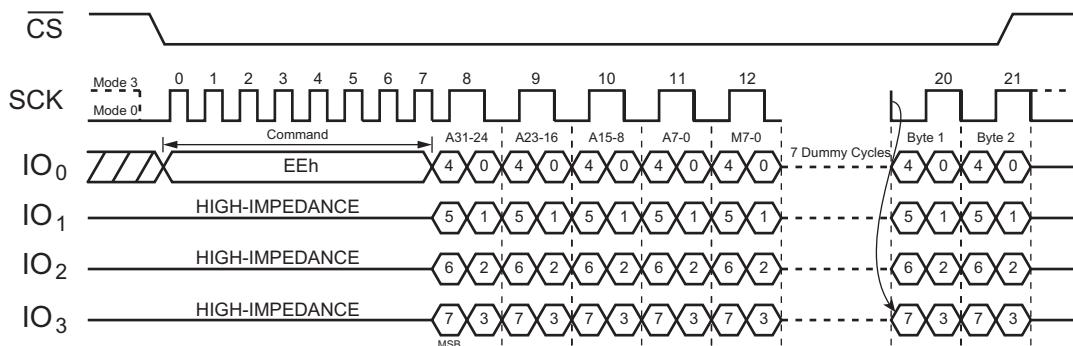
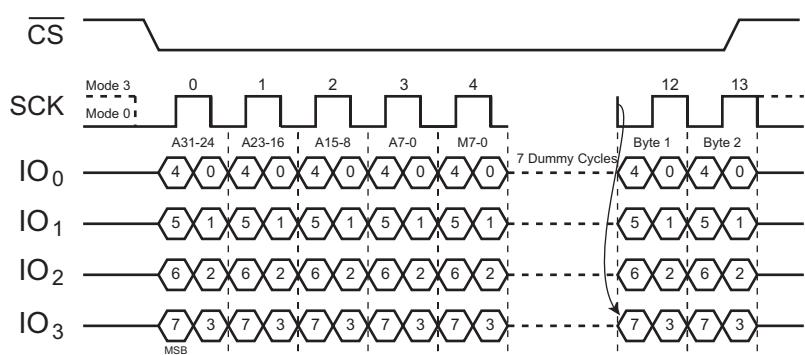

Figure 63. DTR Quad I/O Fast Read with Four-Byte Address (SPI Mode, Initial command or previous M5-4≠10)
Figure 66. DTR Quad I/O Fast Read with Four-Byte Address (QPI Mode; Initial command or previous M5-4=10)
The DTR Quad I/O Fast Read with Four-Byte Address (EEh) command is similar to the Fast Read Dual I/O (BBh) command except that address and data bits are input and output through four pins  $\text{IO}_0$ ,  $\text{IO}_1$ ,  $\text{IO}_2$ , and  $\text{IO}_3$ , as well as four Dummy clocks, are required in SPI mode before the data output, as shown in Figure 63 to Figure 66. The Quad Enable bit (QE) of Status Register must be set to enable.